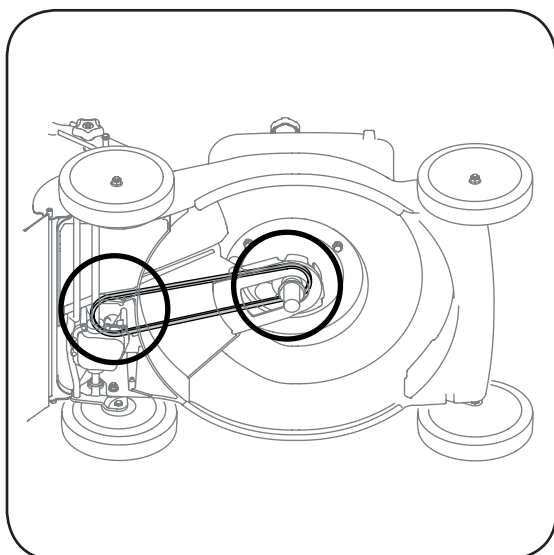

Figure 5-5: Remove belt from transmission and engine pulley.
b. Once belt is off transmission pulley, push down on deck baffle to access engine pulley and slide belt off this pulley and out from under the deck, Figure 5.5.